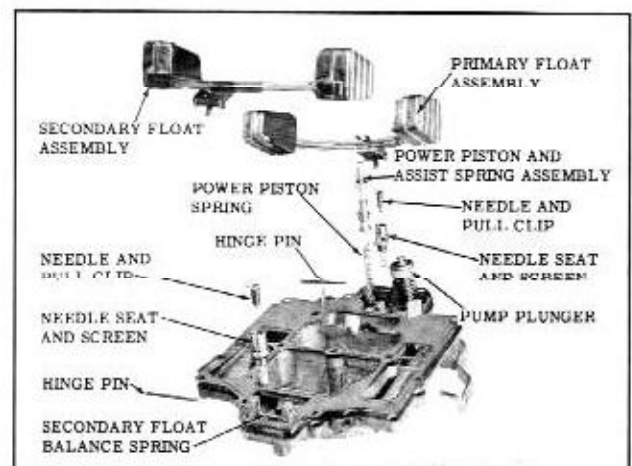

Fig. 8-97 Air Horn Assembly
10. Remove the hinge pin from the primary float assembly, then slide the float and needle away from the power piston stem. (Fig. 8-97)